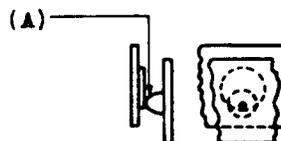

Fig. 2
*2.03 Contact Alignment - Fig. 2 (A) - The contacts shall line up so that the point of contact falls wholly within the boundary of the opposing contact. Gauge by eye.